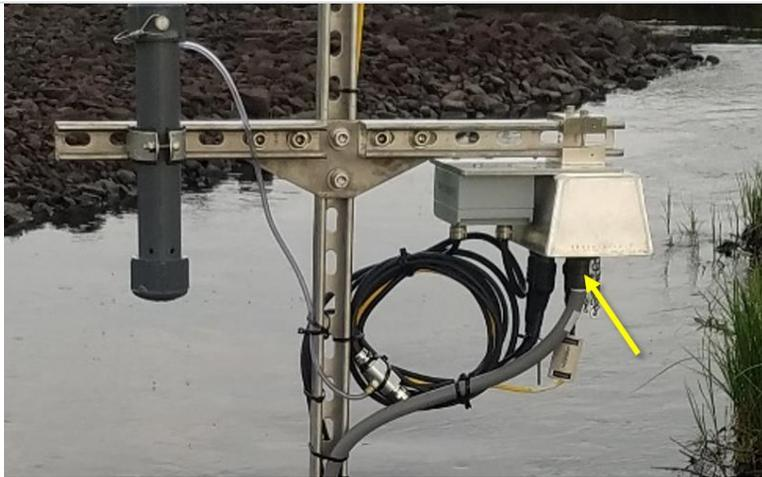

Figure 38. Merlot grape with signal output adapter (splitter/converter box)
**STEP 2.1** | Stream sites: Disconnect the Multisonde 12V Merlot Grape from power by disconnecting the Ethernet cable (RJF) that connects to the Grape (**Figure 38**).